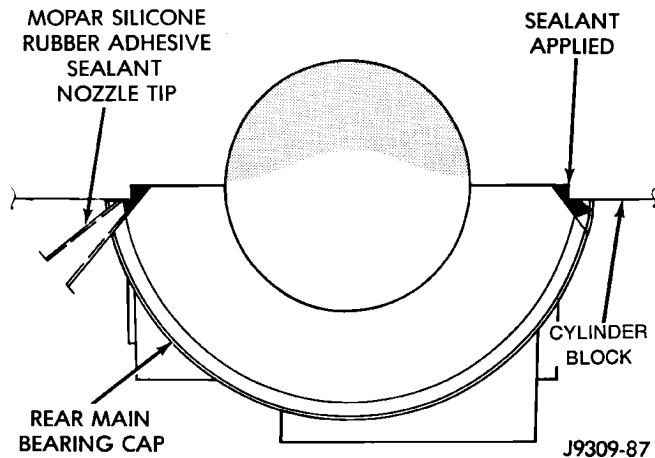

Fig. 41 Apply Sealant to Bearing Cap to Block Joint
(8) To align the bearing cap, use cap slot, alignment dowel and cap bolts. DO NOT remove excess material after assembly. DO NOT strike rear cap more than 2 times for proper engagement.
(9) Clean and oil all cap bolts. Install all main bearing caps. Install all cap bolts and alternately tighten to 115 N·m (85 ft. lbs.) torque.
(10) Install oil pump.
(11) Install the timing chain cover.
(12) Install the vibration damper.
(13) Apply Mopar® Silicone Rubber Adhesive Sealant, or equivalent, at bearing cap to block joint to provide cap to block and oil pan sealing (Fig. 41). Apply enough sealant until a small amount is squeezed out. Withdraw nozzle and wipe excess sealant off the oil pan seal groove.
(14) Install new front crankshaft oil seal.
(15) Immediately install the oil pan.